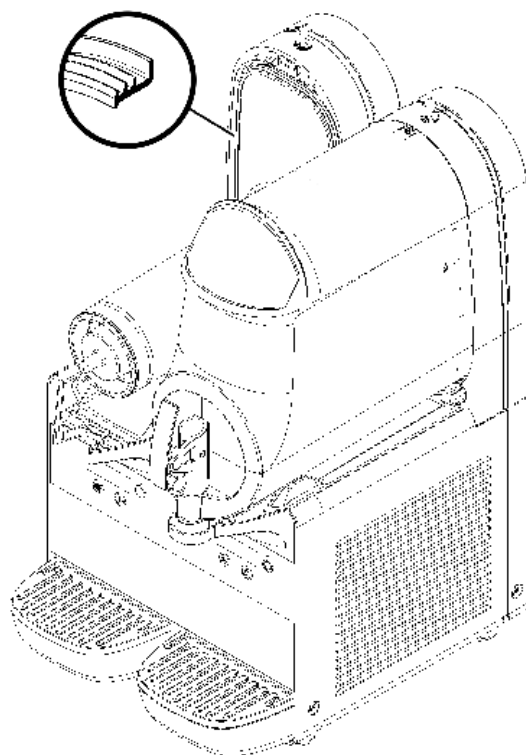

figure 11
- 4 Replace the container gasket. N.B. the rim with the greater diameter must be rested on the rear wall (see figure 11).